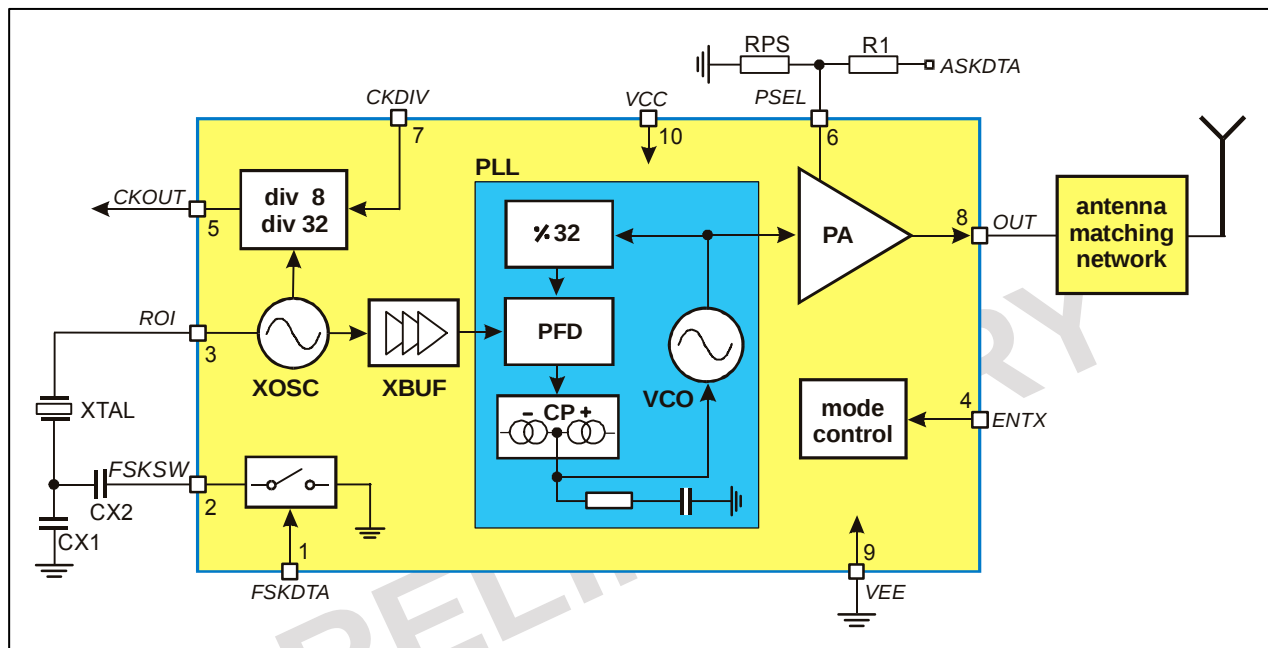

Fig. 1: Block diagram with external components
As depicted in Fig.1, the TH72036 transmitter consists of a fully integrated voltage-controlled oscillator (VCO), a divide-by-32 divider (div32), a phase-frequency detector (PFD) and a charge pump (CP). An internal loop filter determines the dynamic behavior of the PLL and suppresses reference spurious signals. A Colpitts crystal oscillator (XOSC) is used as the reference oscillator of a phase-locked loop (PLL) synthesizer. The VCO's output signal feeds the power amplifier (PA). The RF signal power P_{out} can be adjusted in four steps from $P_{out} = -11$ dBm to $+9.5$ dBm, either by changing the value of resistor RPS or by varying the voltage V_{PS} at pin PSEL. The open-collector output (OUT) can be used either to directly drive a loop antenna or to be matched to a 50Ohm load. Bandgap biasing ensures stable operation of the IC at a power supply range of 1.95 V to 5.5 V.